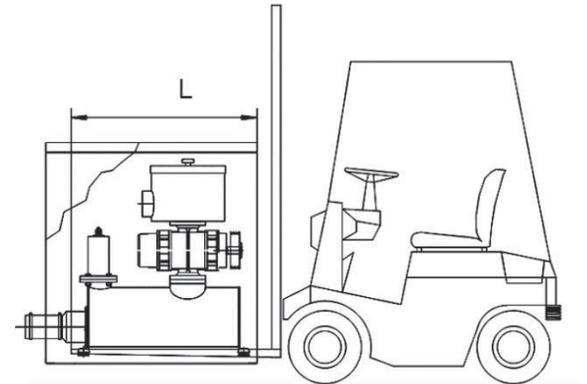

FIGURE-2.4
- Lift the package using a fork lift as indicated in Figure-2.4.
- Lift the unenclosed package using a fork lift as indicated in Figure-2.4.